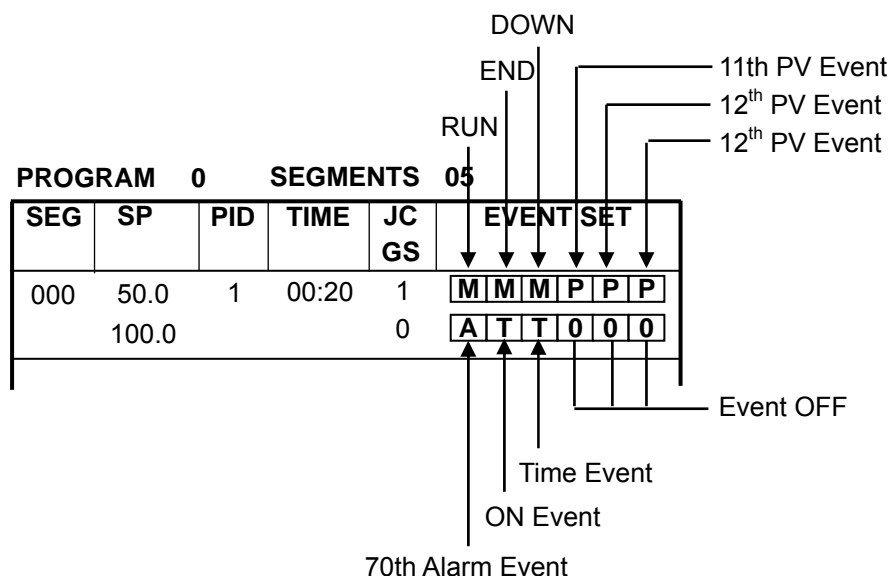

Fig. 3.10.2 The part to arrange PV and Time events to digital outputs on SEG EDIT screen of User Manual
2. When Program control and Synchronous mode, if you need 3 mode events (RUN, END, DOWN), 3 PV events (21,26,27), 1 Alarm event (70), 2 Time Events (1,13), You can arrange the events like below, in case that set them to segment No. 0 of program No. 0. And like Figure 3.10.2, the event part has to be set in Segment Edit screen.